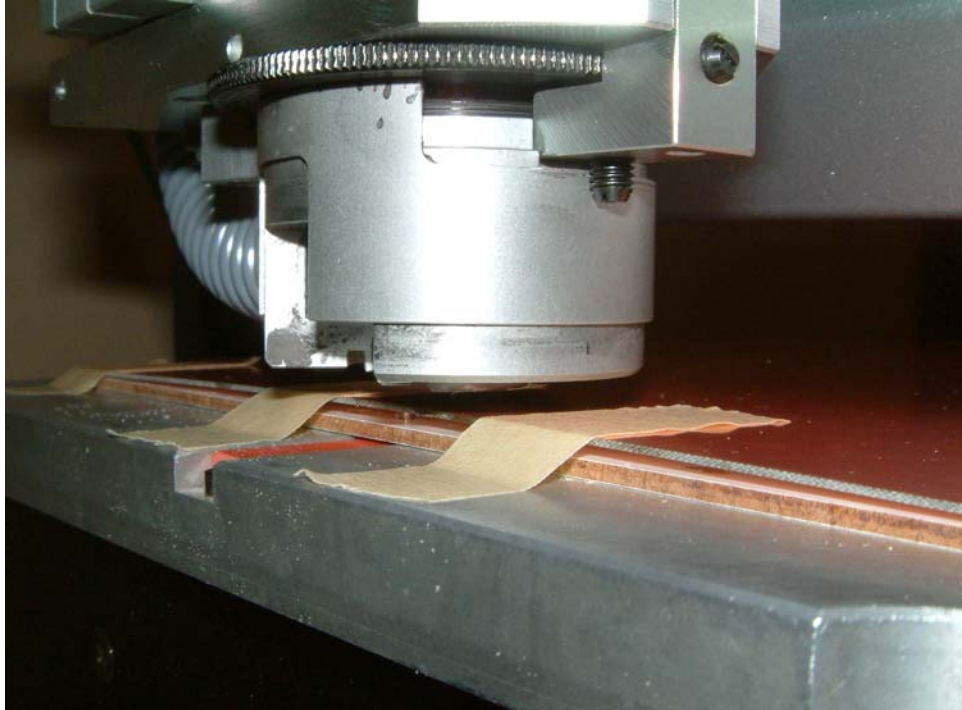

Figure 33: Position copper board to drill marking hole. The marked dot must be offset from the alignment post.
5. Position the drill head above the drawn dot on the left of the board using the manual positioning function, as shown in Figure 33.